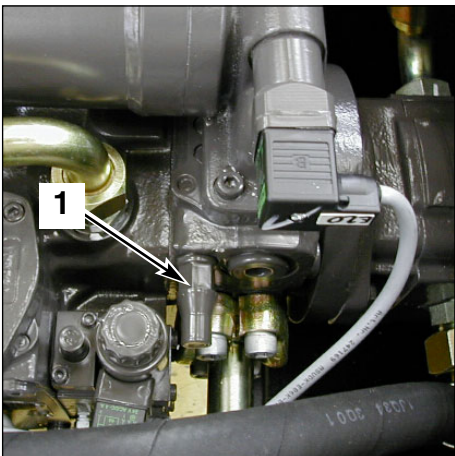

Fig. 2 Transfer movement pump
- 3- If the pressure is too low, turn the screw (1 fig. 2) clockwise to increase the pressure.